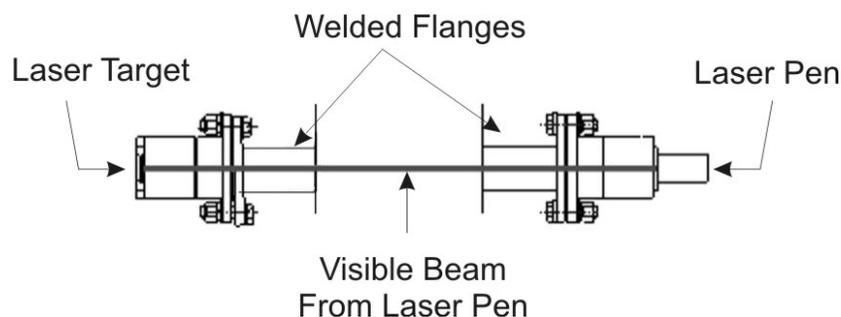

Figure 3.4 Adjusting the Instrument Flanges with Laser Pen and Target.
1. Tighten the laser pen on one of the instrument flanges with a mounting nut. Install the scaled target on the other instrument flange. Turn on the laser pen and check whether the light spot is on the center of the scaled target. If not, adjust (tighten or loosen) the 4 M16 bolts on the instrument flange where the laser pen is mounted until the light spot is at the center of the target. See Figure 3.4.